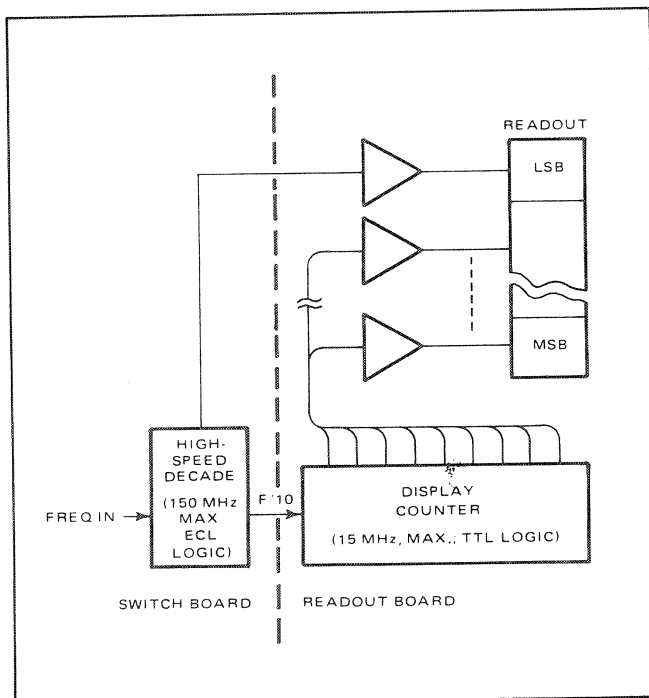

Figure 4.1 - Counter Definition
4.6 The block labeled "counter" refers to both a high-speed decade on the Switch board and the display counter. The high-speed decade divides its input by 10 and advances the display counter. It also updates the least-significant readout position (figure 4.1).